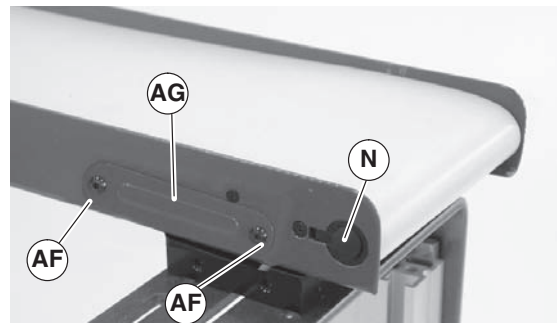

Figure 32
- Remove screws (Figure 32, item AF) and tension pin cover (AG) and plastic plug (N).